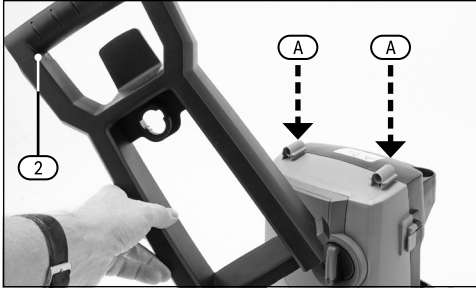
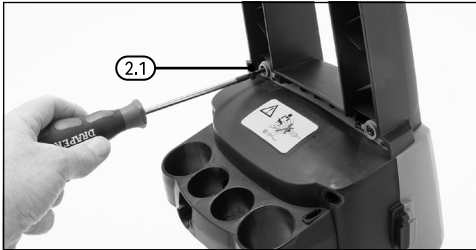

Fig. 1
Fig. 2
6.1 Fitting the Carry Handle (Fig.1 – Fig.2)
- Slide the handle (2) section over the mounting points (A) at the top of the main body.